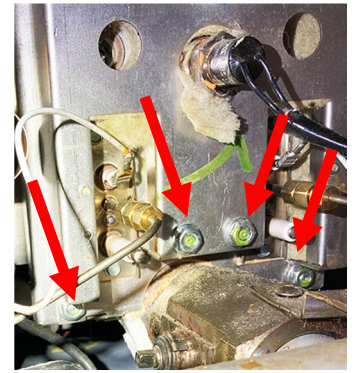

Figure 38
41. Remove the four (4) lower nuts off the lower insulation cover (see Figure 38).